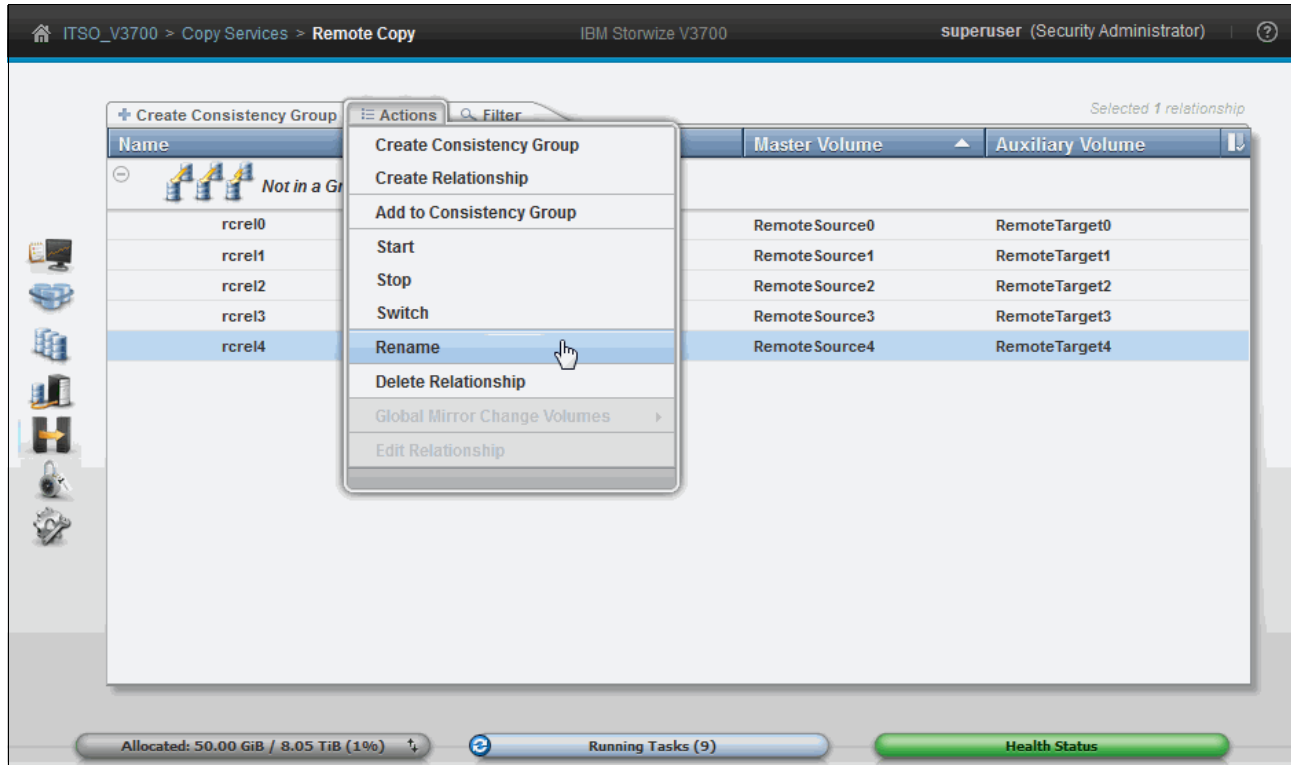

Figure 10-117 Rename the Remote Copy relationship
1. Select the relationship and then click **Rename** from the **Actions** menu, as shown in Figure 10-117, or highlight the relationships and right-click.